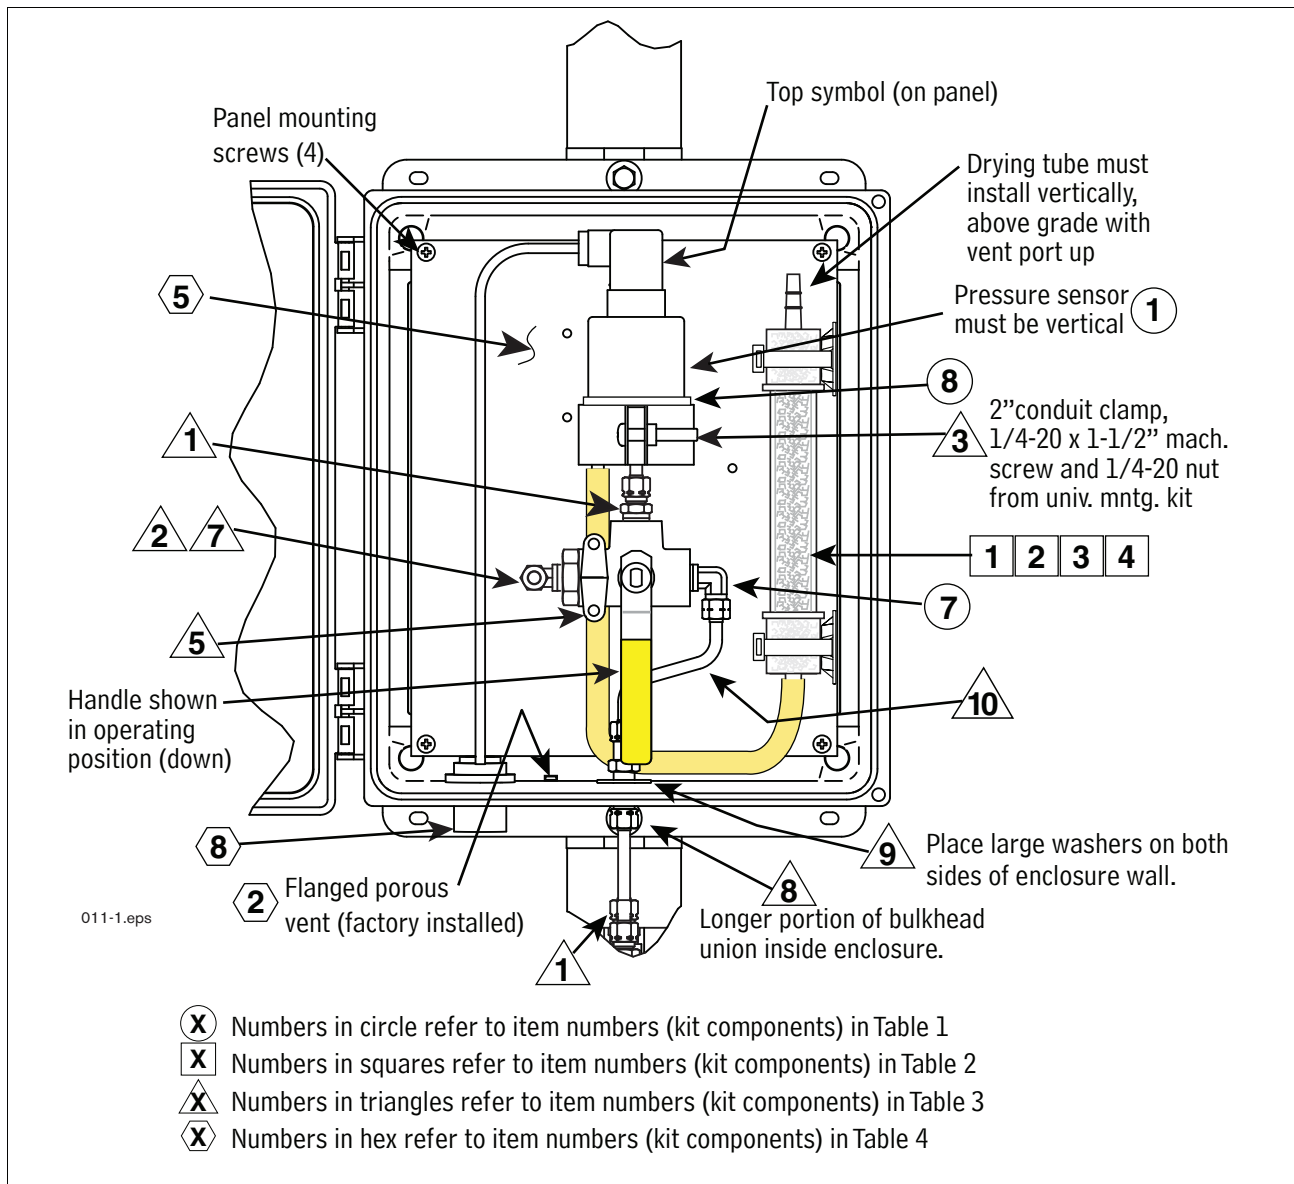

Figure 7. Mounting Pressure Sensor Assembly onto Composite Panel
4. Install the vapor pressure sensor (item 1 in Table 1) vertically onto the center of the composite panel (item 5 in Table 4). Insert the sensor in the 2-inch conduit clamp using necessary bolts, nuts, and washers included in the universal mounting kit (item 3 of Table 3). Be sure the top symbol on the panel is facing upwards (see Figure 7). Wrap the rubber shim (item 8 in Table 3) around the sensor before inserting it into the clamp. Also make sure the sensor cable outlet is facing up and the pressure sensing port tube in the base of the sensor is
5. Install two 169CA-4-4 male elbows (item 7 in Table 3) into each end of the 3-way calibration valve (item 5 in Table 3) as shown (see Figure 7).
6. Install one 68CA-4-4 male connector (item 1 in Table 3) into the center port of the 3-way calibration valve, and then directly attach it to the vapor pressure sensor inlet port (center) (see Figure 7).
7. Screw the 59CA-4 plug (item 2 in Table 3) onto the left port's male elbow (see Figure 7).
9. Install the composite panel into the enclosure (item 5 in Table 4) such that the sensor cable outlet is facing up and the pressure sensing port tube in the base of the sensor is facing down. The top symbol on the panel should be facing upward. Use the four short screws included in the enclosure hardware bag.
10. Make sure that the white flanged porous vent (factory installed - item 2 in Table 4) is still securely installed into the hole in the bottom of the enclosure (see Figure 7).
11. Insert the S-bend 1/4" OD copper tube (item 10 in Table 3) into the right-side male elbow of the 3-way calibration valve, but do not fully tighten the compression nut (see Figure 7).
12. Locate the 62CABH-4 bulkhead union (item 8 in Table 3) and remove the compression nut and the adjustable nut then place a large washer (item 9 in Table 3) against the fixed, integral body nut. Slide the compression nut that was removed onto the bottom portion of the S-bend tube.
15. Fully tighten the compression nuts to connect the S-bend tube to the union and to the male elbow. Tighten the sensor conduit clamp screw to secure the sensor in its final vertical position (see Figure 7).
16. Get the contents of the pressure sensor drying tube kit (Table 2). Thread a tie wrap (item 3) through the slots in each of the self-adhesive mounts (item 4). Place the top mount against the large cap on one end of the tube and tighten the tie wrap until it is against the tube cap but you can still rotate the tube. Place the second mount against the other end cap of the tube, again pulling the tie wrap through the mount until it is against the tube cap but you can still rotate the tube.
Remove the two soft plastic seals from each end port of the drying tube. Get the Tygon tubing (item 2) from the kit and attach one end of the tubing to one end of the drying tube. Slide the tubing onto the drying tube as far as you can (snug). Referring to Figure 7, position the drying tube vertically in the enclosure with the open port of the tube up, and estimate the length needed to loop from the bottom of the drying tube up to the vent port (off center) of the Vapor Pressure Sensor. Cut the Tygon tubing at the estimated length (approximately a foot or so). Remove the paper cover from the self-adhesive base of the two tie wrap mounts and stick the drying tube to the inside of the enclosure as shown in Figure 7. Pull each of the tie wraps snug and cut off the excess. Attach the other end of the Tygon tubing to the vent port (off center) of the Vapor Pressure Sensor. NOTE: the upper port of the drying tube must remain open and be oriented up as shown in Figure 7.
22. Make sure the valve's handle is set to connect the sensor to the vapor vent stack as shown in Figure 7 and not to the capped (vent) port.